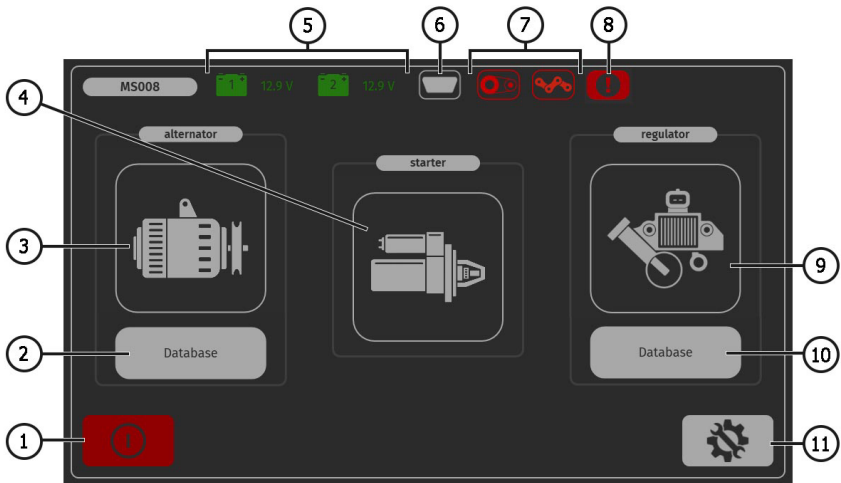

Figure 8. Bench main menu
The bench main menu (fig. 8) consists of:
1. Press **Database** in the bench main menu (fig. 8, ref. 2).